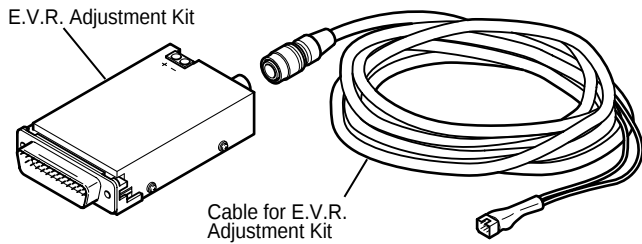

Fig. 1-1
- Electric Variable Resistor (E.V.R.) Adjustment Kit (Part Number: YWV0JA0019AN) as shown in Fig. 1-1.